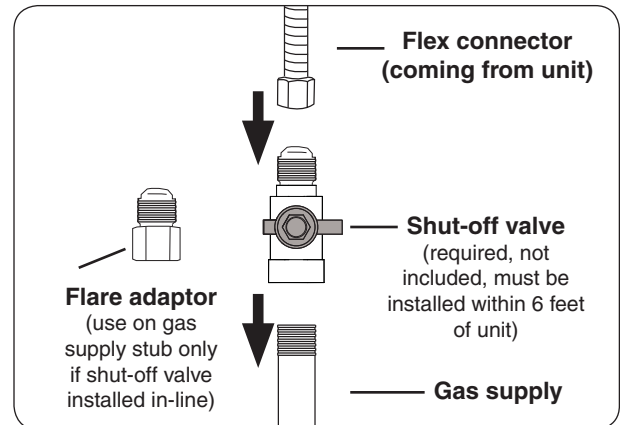

Fig. 16-3 Connecting to a gas line
- Connect the flex connector to the shut-off valve (see Fig. 16-3). Tighten securely.
- Install the supplied flare adapter to the gas supply using a pipe joint compound resistant to all gasses (see Fig. 16-3). Tighten securely.
- Connect the flex connector to the flare adapter (see Fig. 16-3). Tighten securely.